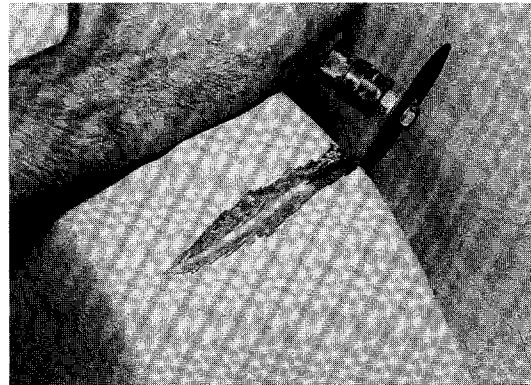

Figure 14-2
2. If damaged area has ragged edges, cut or grind away all loose material. Cut a V-shaped groove on the top side on all edges of the repair area (Figure 14-2). Sand all the area to be repaired on top side only with 40 grit sandpaper.